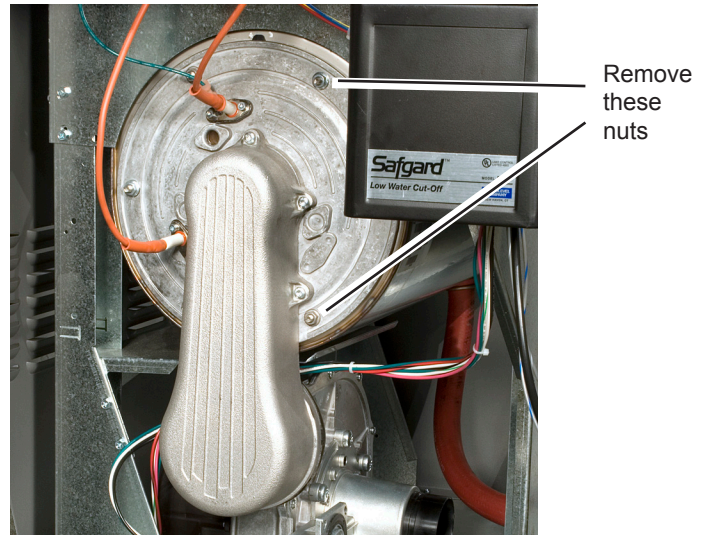

Fig. C5-6 - Disconnect the wires on the front plate of the heat exchanger
7. The next job is to separate the front plate on the heat exchanger from the rest of the unit. See Fig. C5-6. Note the two large wires running to this assembly. The spark wire and the flame sense wire look alike. **The unit will not run if you reverse these wires.** Before removing the wires, mark the spark wire with a piece of electrical tape. Also disconnect the green ground wire.